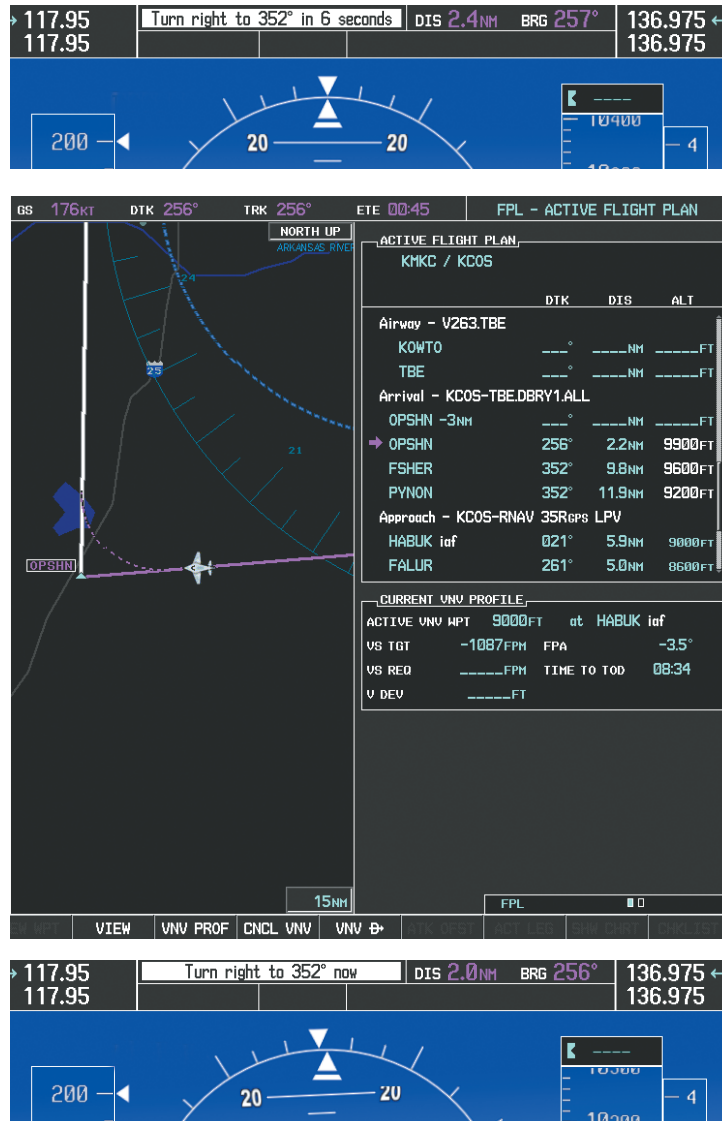

Figure 5-134 Turn to intercept OPSHN to FSHER Leg
- 18) The aircraft is approaching OPSHN. The upcoming turn and next heading are announced at the top left of the PFD as seen in Figure 5-134. Initiate the turn and maneuver the aircraft on a track through the turn radius to intercept the magenta line for the OPSHN to FSHER leg and center the CDI.